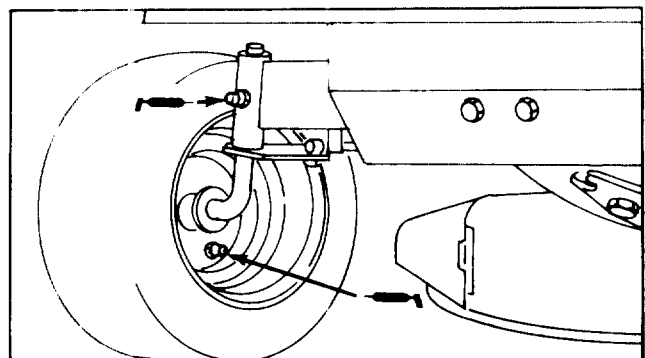

Figure 12
1. Wipe grease fittings on spindles and wheels (Fig. 12) with a clean rag. If there is paint on front of fittings, scrape it off.
2. Lubricate both axle spindles w/No. 2 general purpose grease (Fig. 12). Continue to pump grease until it oozes out the spindle. Wipe up any excess grease.
3. Lubricate both front wheels w/No. 2 general purpose grease (Fig. 12). Pump grease gun about four times Wipe up any excess grease.